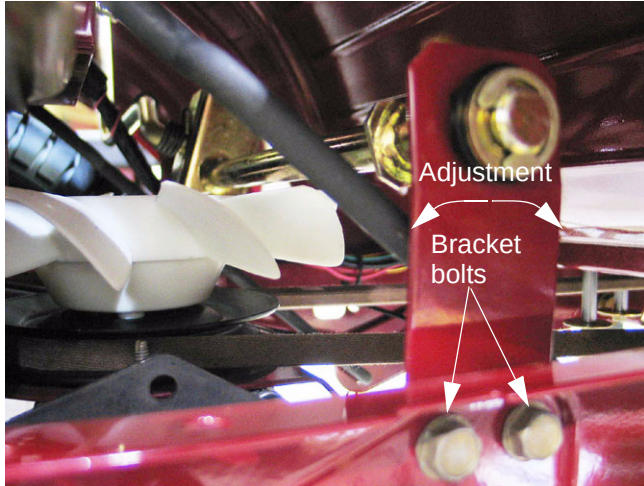

Figure 7.4
- 7.4. The pitch on the threads of the rod is 16 threads per inch. If an adjustment of less than $1/16$ " is needed, the bolts that secure the mounting bracket to the frame can be loosened slightly for adjustment. See Figure 7.4.